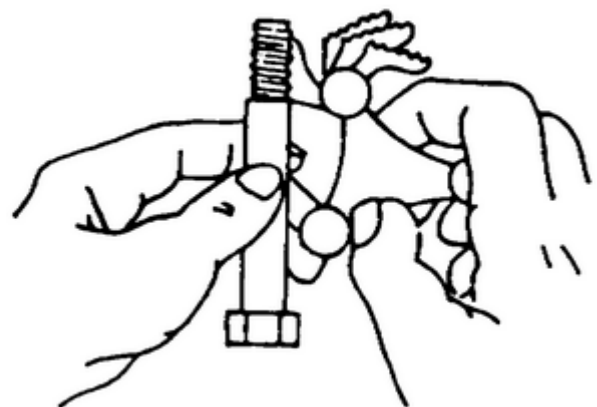

FIGURE 58. USING SCREW PITCH GAGES.
- b. Screw pitch gages measure the pitch of screws. If the pitch of a screw is not known, it can be determined by comparing it with the standards on various screw pitch gages as shown in Figure 58. Place a blade of a gage over the threads, and check to see whether it meshes; if not, successively check each blade of the gage against the thread until it matches. The pitch can be read off the correct blade. The blades are made pointed so they can be inserted in small nuts to check inside threads as well as outside threads.